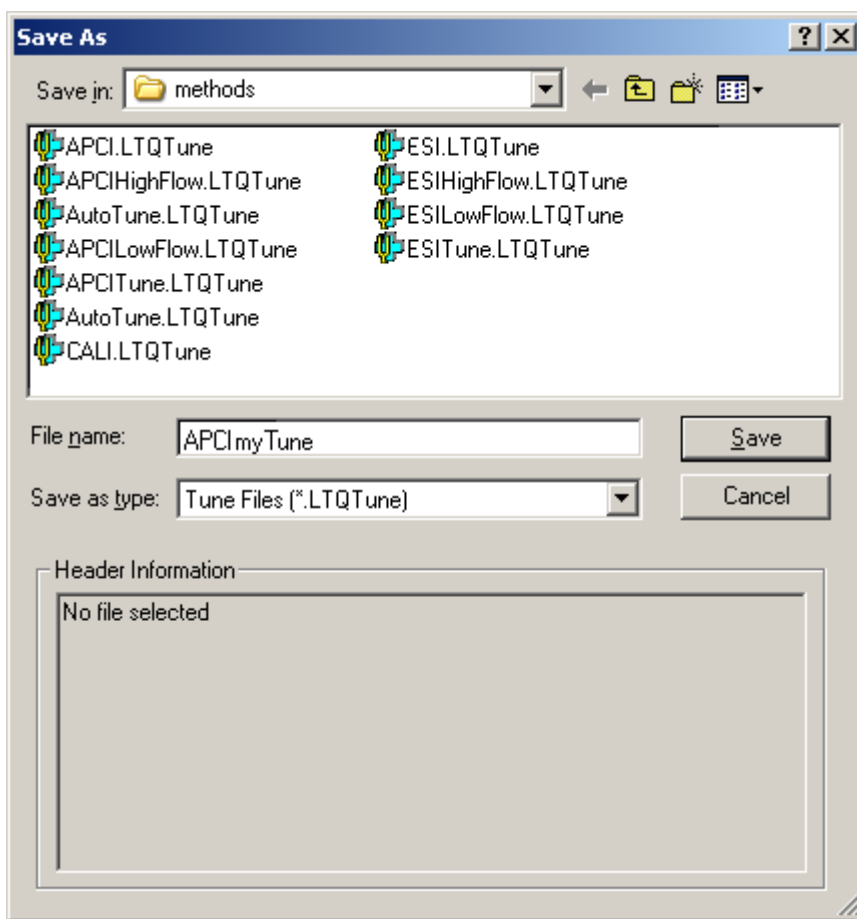

Figure 61. Save As dialog box, showing files in the folder *C:\Xcalibur\methods*
1. Choose **File > Save As** to display the Save As dialog box. See Figure 61.